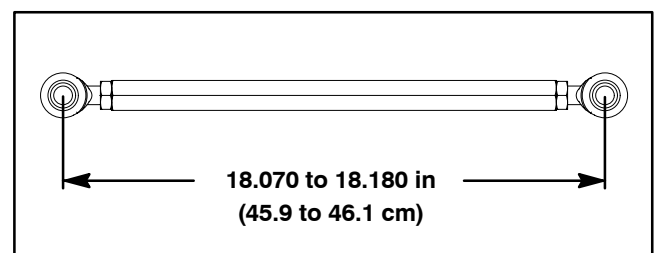

Figure 26
B. If ball joints were removed from link (item 13), install ball joints equally on both ends of link. Adjust center to center length of link assembly from **18.070" to 18.180" (45.9 to 46.1 cm)** (Fig. 26). Tighten jam nuts to secure ball joints to link. Make sure that ball joints stay inline when tightening jam nuts.